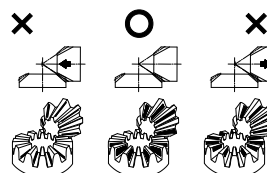

Figure 2
(Note: The adjustment spacers are used to adjust the gear lash.) (See figure 2.)
8. Install the adjusting spacer into the angle casing cover. (Note: The adjustment spacers are used to adjust the gear lash.) (See figure 2.)